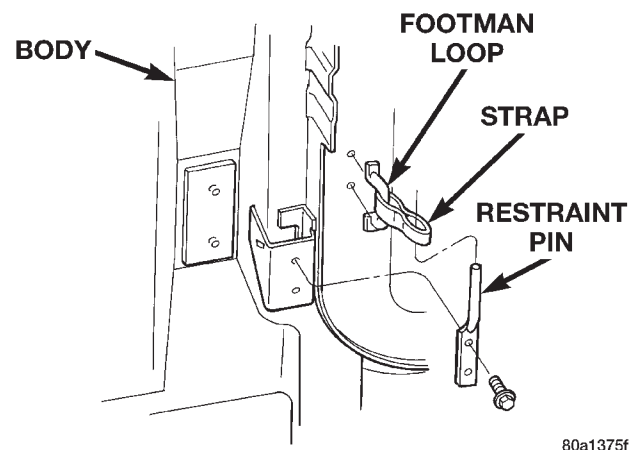

Fig. 18 Restraint Strap
- (2) Disconnect the door restraint strap from the pin (Fig. 18).
- (3) Remove the nuts at the door hinge pivots and lift the door from the body.